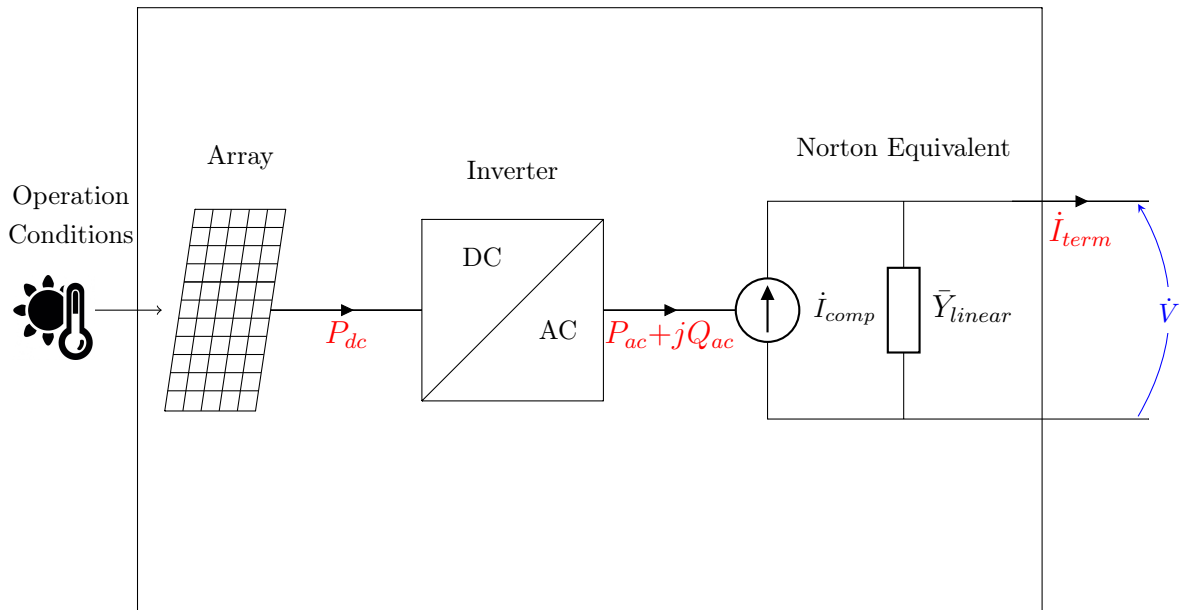

Figure 1: Block diagram of the PVSystem element model
Figure 1 shows a schematic diagram of the PVSystem element model that is implemented in OpenDSS version 9 and above. The model combines the photovoltaic (PV) array and the PV inverter. It assumes that the inverter is capable of tracking the maximum power point (mpp) of the panel quickly, allowing adequate use in QSTS simulations with a time step of at least one second. This considerably facilitates PV modeling and is an adequate assumption for most interconnection impact studies.